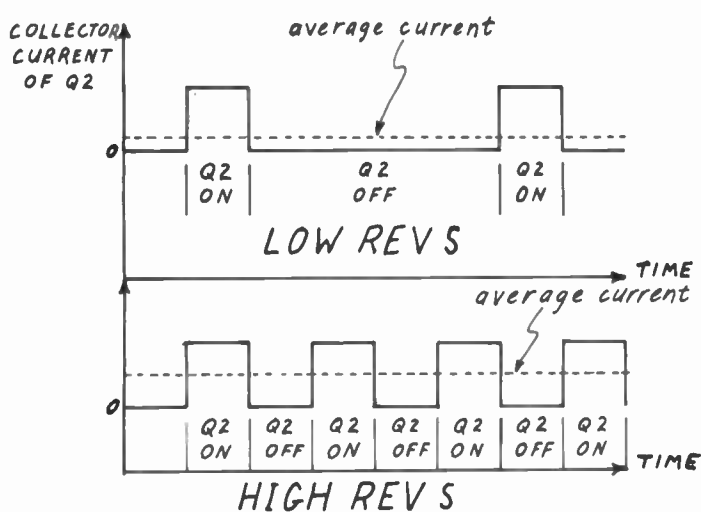

FIG. 5 This shows how average current into the tachometer varies with changing engine speed.
8. As engine speed increases, the time between these constant width pulses will decrease — i.e., the mark-space ratio will change. This is shown graphically in Fig. 5. The overall effect is to increase the average current through the meter and hence its deflection.